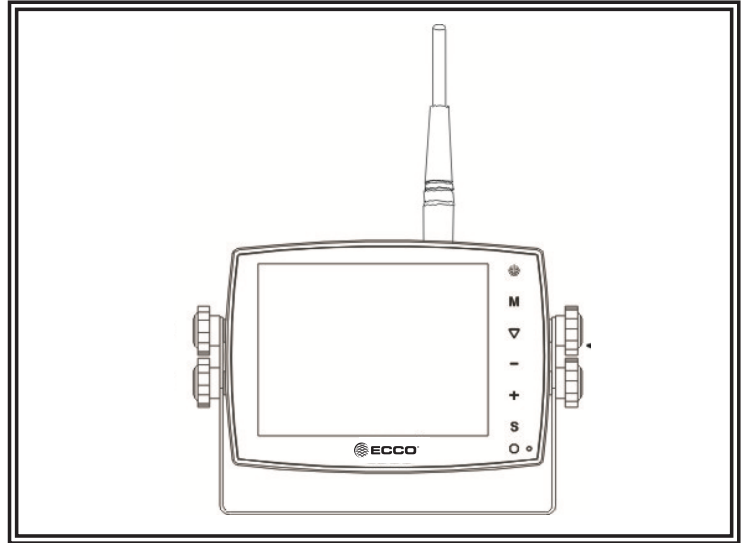

Figure 5
2. Fix the monitor to the U-support bracket with angle adjustment screws and adjust the view angle of the monitor (Figure 5)